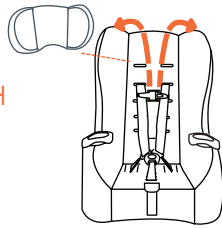

Fig. 33c
6. Pull seat fabric up and over the top of the car seat. Then, install the pillow (Fig. 33c).